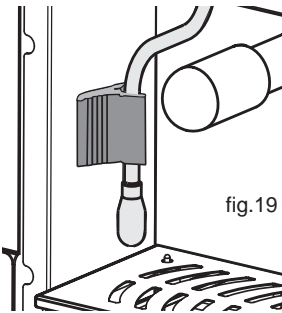

fig.19
- Make sure that the nozzle is inside the grid 12 (fig. 19).